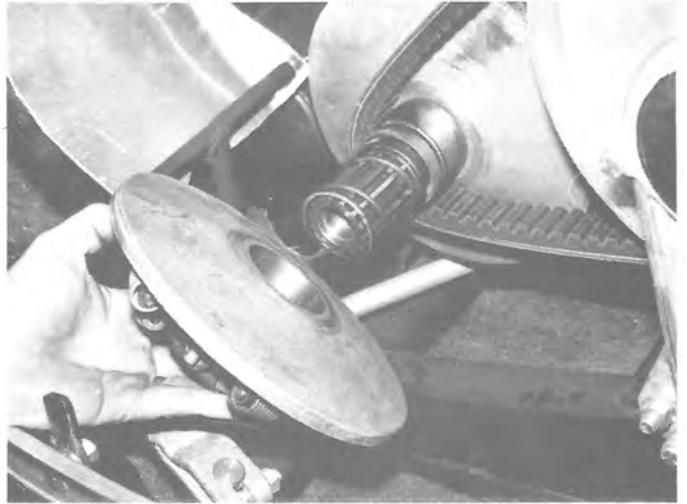

FIG 4-4
- 4 Movable sheave should slide off spline easily. Next remove spring and retainer. (See Figure 4-4.)